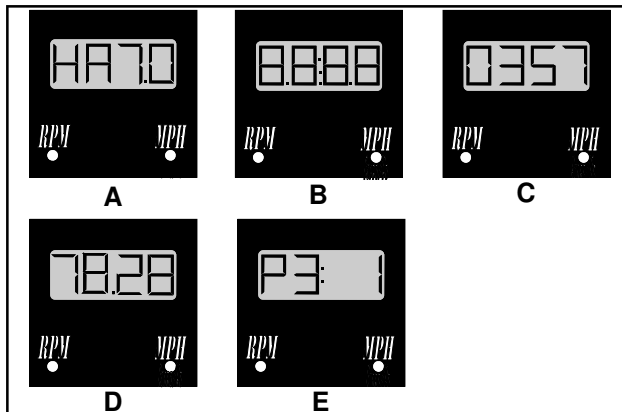

FIG 21-1
To check the parameter settings, press the desired button and hold until four "8's" are shown, then release (fig. 21-1, item B). The parameter setting will be displayed for four seconds.
RPM ..... 357(fig. 21-1, item C)
MPH (320/85R34 tire) ..... 78.3(fig. 21-1, item D)
**ADDITIONAL PARAMETERS** – To access the miscellaneous parameters screen (fig. 21-1, item E), hold down both buttons at the same time until the screen with four "8's" appears.